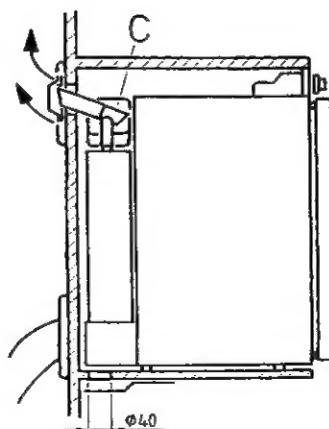
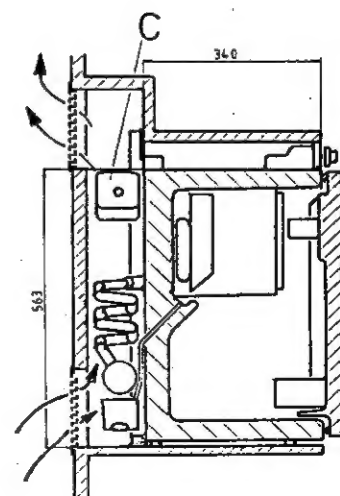

Fig. 9
Fig. 10
The refrigeration unit is ventilated via two openings in the wall of the caravan (see Fig. 10). Fresh air enters through the lower opening and warm air is discharged through the upper one.
Locate the lower opening immediately above the floor of the recess, and the upper one as high as possible above the condenser (C) of the refrigeration unit, at least as shown in Fig. 9 but preferably as shown in Fig. 10.
Removal of Flue Gases (Alt. I), Fig. 10.
The ventilation passage at the rear of the recess is limited by the caravan wall and the rear of the refrigerator, see Fig. 10. It must be completely sealed from the interior of the caravan. Neither flue gas nor air from the ventilation openings in the wall of the caravan must be able to pass into the interior of the caravan.
Removal of Flue Gases (Alt. II), Fig. 9.
It is a good idea to install a vent grille above the condenser, (C) in fig 9, if there is free space above the enclosure (e.g. refrigerator built-in under a work top).